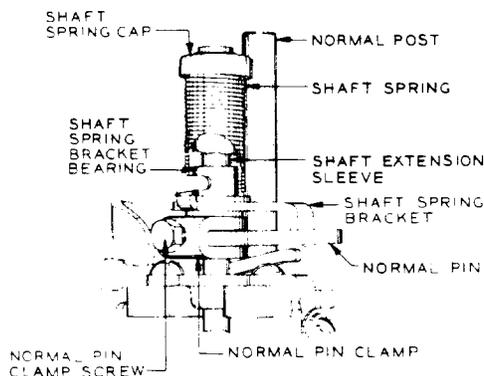

Fig. 12—Helical-Type Shaft Spring and Associated Parts
- (c) **Assemblies per Fig. 12 Only:** The shaft spring shall not be wound more than 2-3/4 turns, one turn being considered a 360-degree rotation of the spring cap.